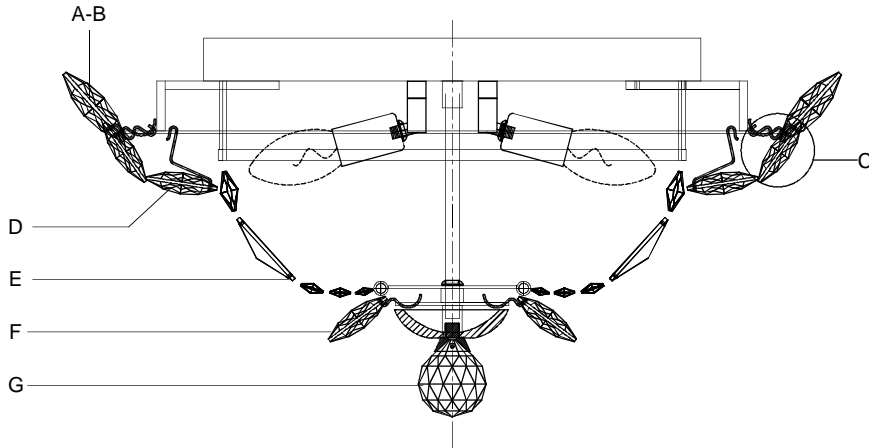

fig1. (C)
2-Form pattern as shown on Slotted Ring Top View diagram to the bottom right. Install crystal (C) first using the top right diagram fig1 (C).